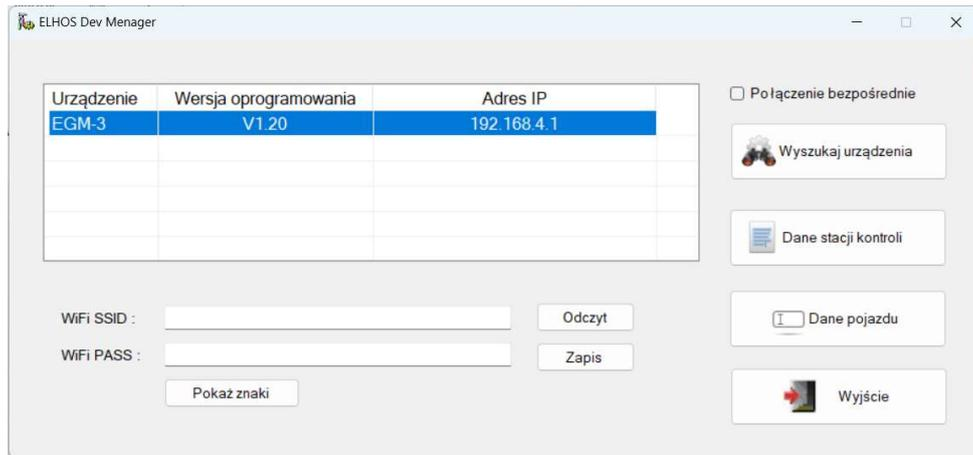

Fig. 4
- The second way is to connect the EGM-3 device and the computer to the local network. The computer can then be connected by wire, while the EGM-3 device can be connected via an access point of the local network. In order to establish this connection, set the name of the WiFi network (WiFi SSID) and password (WiFi PASS) to which you want to connect in the EGM-3 device. The local network should dynamically assign IP addresses, i.e. have a DHCP server. After configuring the network and unchecking the "Direct connection" option, pressing the "Search for devices" button, the device should be detected and appear on the list of devices as shown in the screen in Fig.4.
ATTENTION: Before the first connection to the local network, it can be done only by "Direct Connection" with the device (see description above). After connecting to the device using the first or second method and selecting the device as shown on the screen in Fig. 4, we can proceed to modify (read or write) the parameters of the local WiFi network to which the EGM-3 device is to be connected.
Double clicking on the device in the device window Fig. 4 causes the application to go to the window where it is possible to read and print the measurement results stored in the device. The application allows you to read 10 memory, numbered from 0 to 9, where each memory contains a measurement of max. 3 windows. By pressing the up/down arrows next to the memory number, the saved measurement number in the device that we want to read/print changes. In order to read the measurement results, press the **"Data Reading"** button, where the table with the measurement results is automatically filled in Fig. 8. In order to print the measurement report, press the button **"Printout"**.